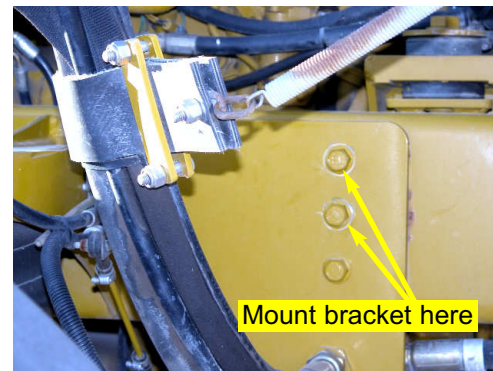

Figure 2a. Tractor mounting bracket location.
- a. Locate the three bolts on the left side of the machine frame behind the front axle. (Figure 2a.)